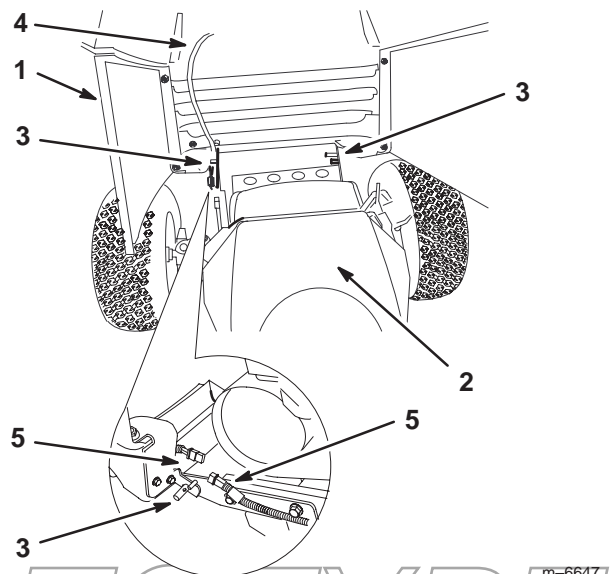

Figure 24
- Align the hood onto the pivot pegs and slide the hood to the right side of the machine (fig. 24).
- Connect the harness and close the hood (Fig. 24).